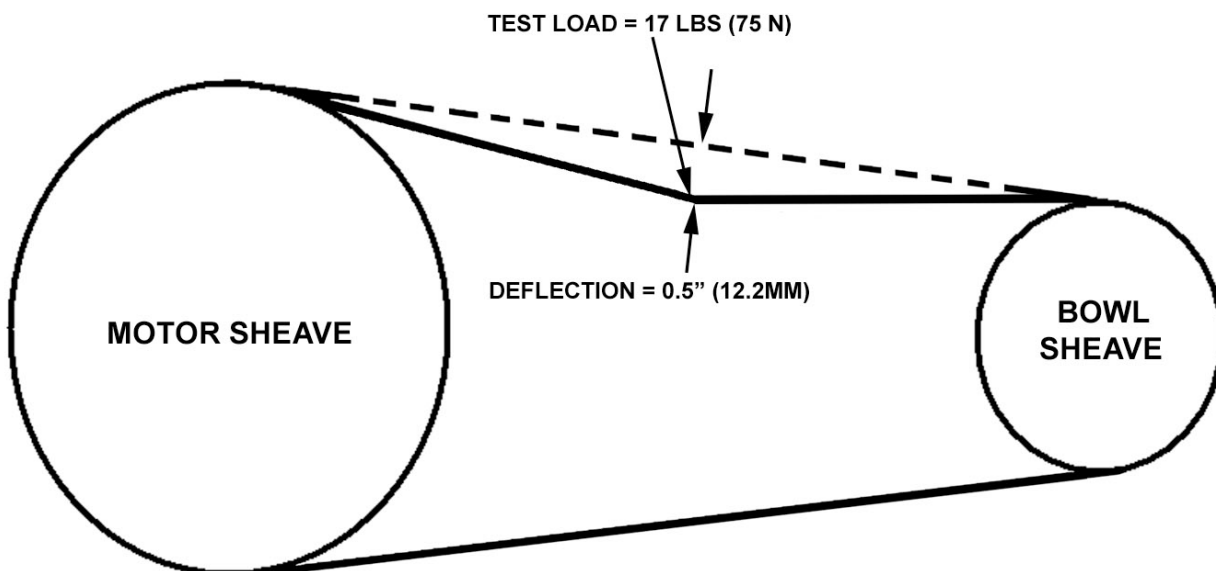

Figure 5-3. Drive Belt Tensioning
6. Turn tensioning bolt to apply tension to belt. Apply sufficient belt tension to permit a 1/2" (13mm) deflection when pressed with a 17 lb (75 N) force at the midpoint of the belt (Figure 5-3). Correct tension will prevent slippage without overloading bearings. After correct tension is set, tighten motor base retaining bolts to secure motor.